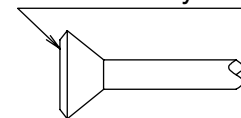

Fig. 13
• When connecting the flare nut, coat the flare section (both inside and outside) with ester oil or ether oil, rotate three or four times first, then screw in. (Refer to Fig. 13)